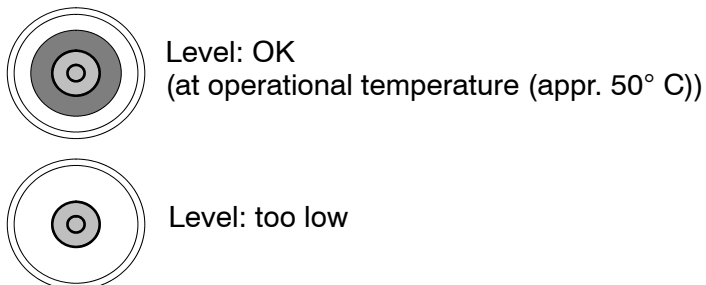

Figure 16 : Measuring cone (top view)
- Fill in distilled water (**only** distilled water from Raytheon Anschütz, part number 148-398, one 230cm³ bottle) into the inlet for supporting liquid until the measuring cone shows "Level O.K.", see Figure 16 .